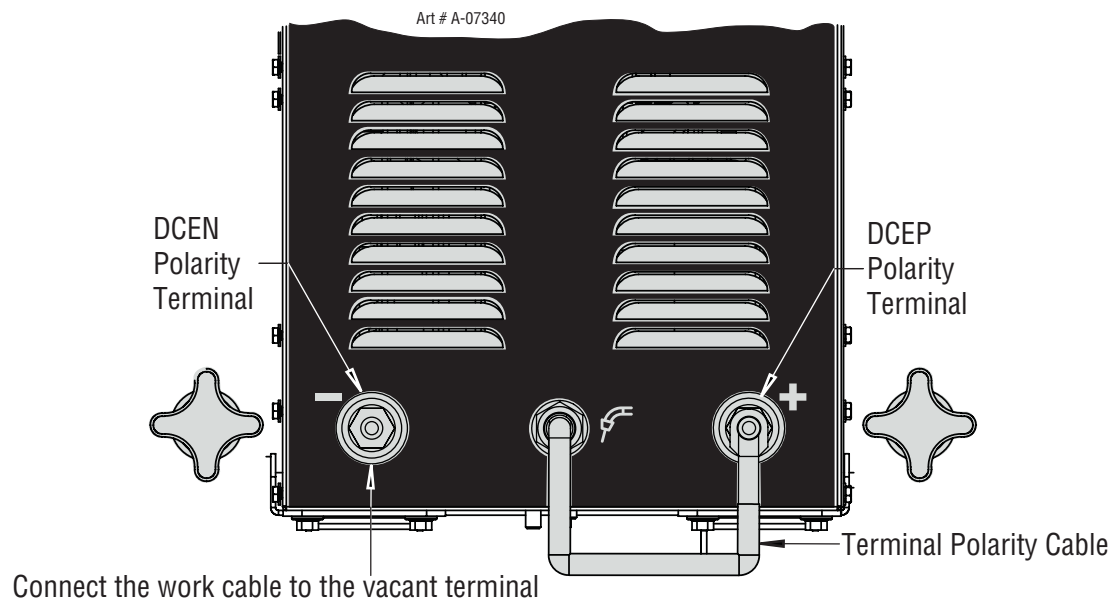

Figure 3-12: Terminal Polarity Setting
- Set up the desired lead polarity as per Table 3-4 and as shown in Figure 3-12 by placing the loose end of the polarity cable on the appropriate terminal.